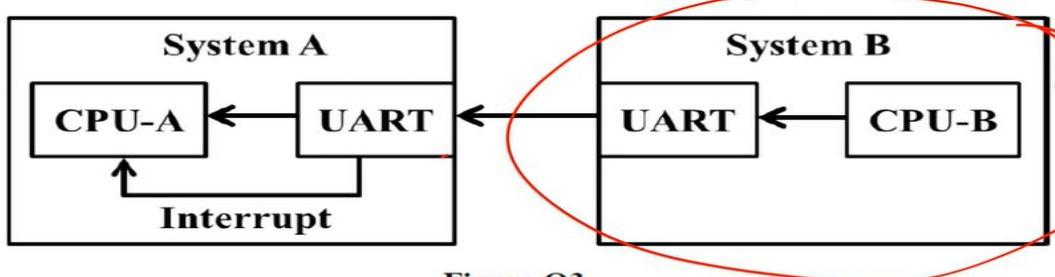

Figure Q3
With reference to Figure Q3 and Table Q3b, answer the following questions:
- (i) In order to achieve the maximum transfer rate, the UART packets are being transferred one after another without any delay between the packets. Calculate and explain whether the system in Figure Q3 will be able to support such transfers at a baud rate of 19200.